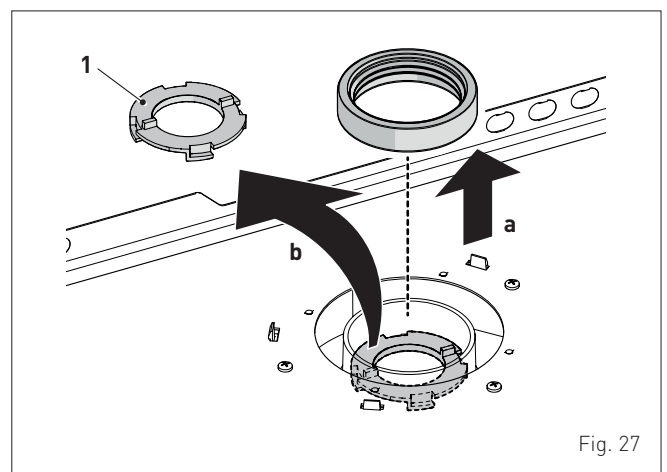

Fig. 27
- For model **Edea 25 T**, beyond a total load loss between discharge and suction of **9 mm H2O**, remove the discharge diaphragm as illustrated in "Fig. 27".
- For model **Edea 35 T**, beyond a total load loss between discharge and suction of **12 mm H2O**, remove the discharge diaphragm as illustrated in "Fig. 27".